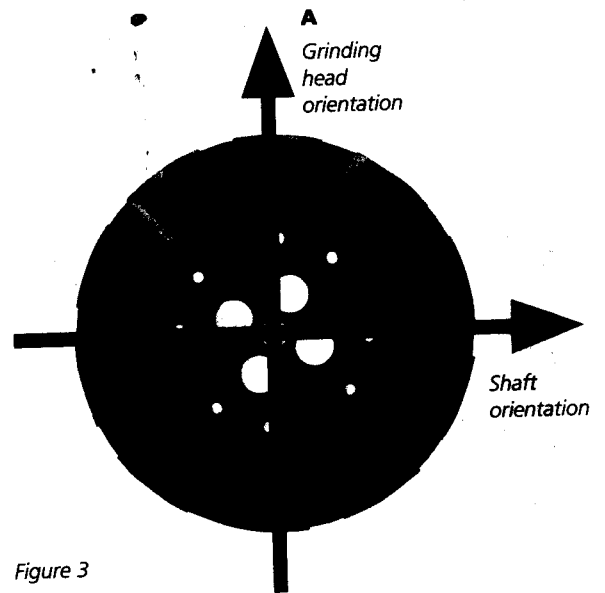
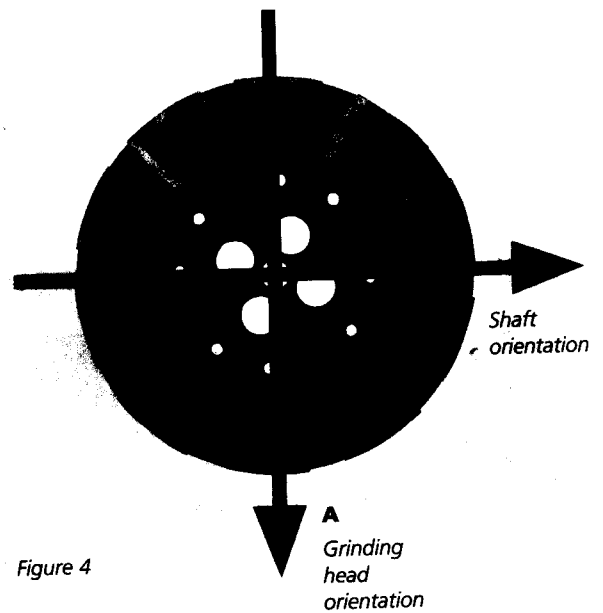

Figure 3
Figure 4
Please refer to figure 3 adjacent. If the grinding head is in this orientation (A) with respect to the drive shaft remove it and rotate it 180° (figure 4). Make sure that the drive shaft is not moved during this process then, re-install.